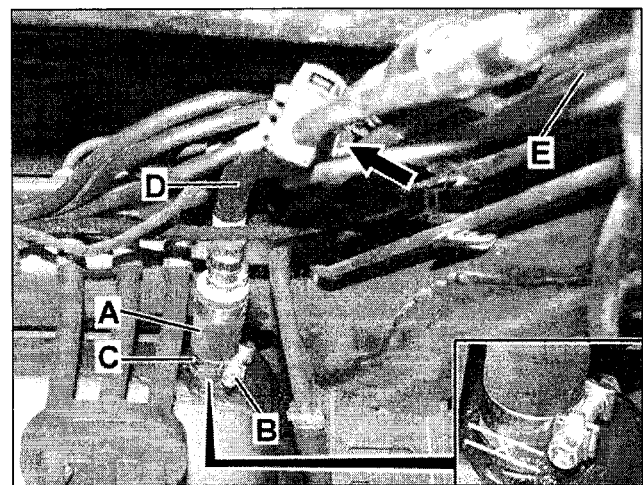

Figure 8
- Connect large fuel hose (A, Figure 8) to fuel tank fitting.
- Open **new screw clamp** (C) by removing screw (B) (prior to installing clamp on hose).
- Temporarily position clamp (C) at **end** of hose (A [near tank]).
Ensure that the distance (distance = X, Figure 8) between end of hose (A) and bottom of hose clamp band (C) is approx. 3 mm.
- Tighten hose clamp (B).
- Connect new small hose (D) to new fuel return line (E) and secure with **new clamp** (arrow). (Refer to **CAUTION** on following page)